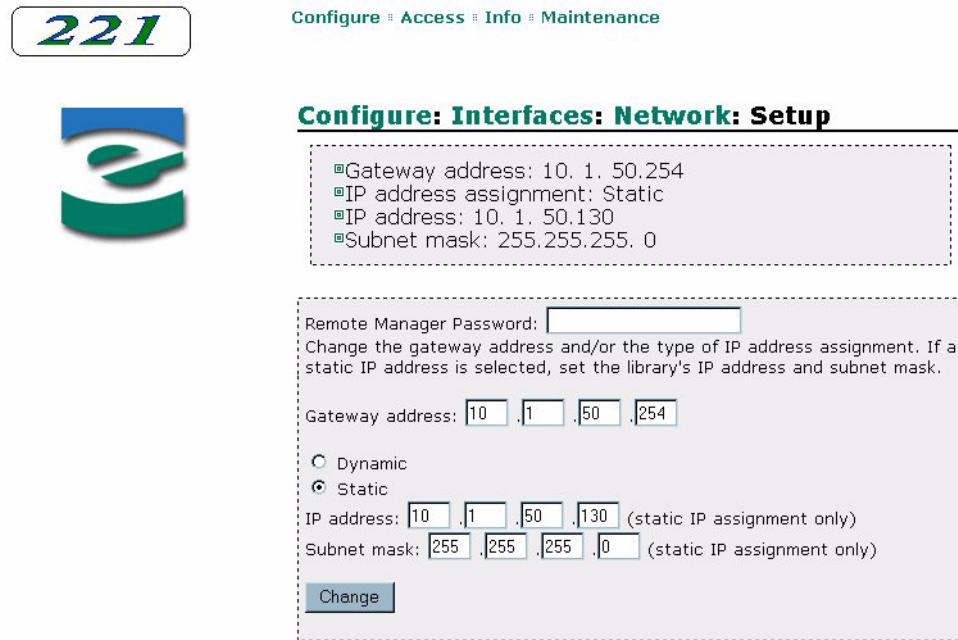

Figure 6-6 Remote management utility – Network Interface Configuration page
4. Click on Set up the network interface. A page similar to Figure 6-6 appears.